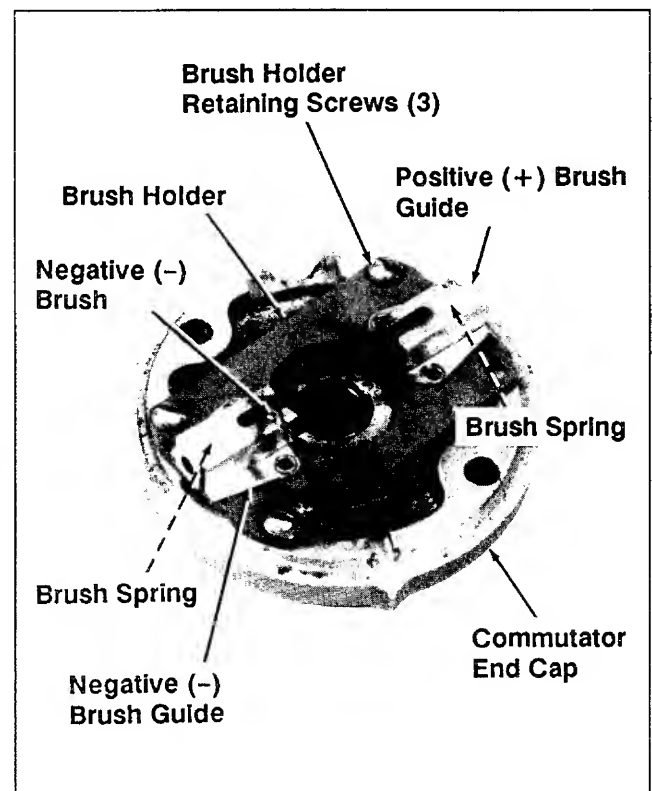

Figure 8-9. Commutator End Cap With Brushes.
1. Remove the brush springs from the brush guides of the brush holder. See Figure 8-9.